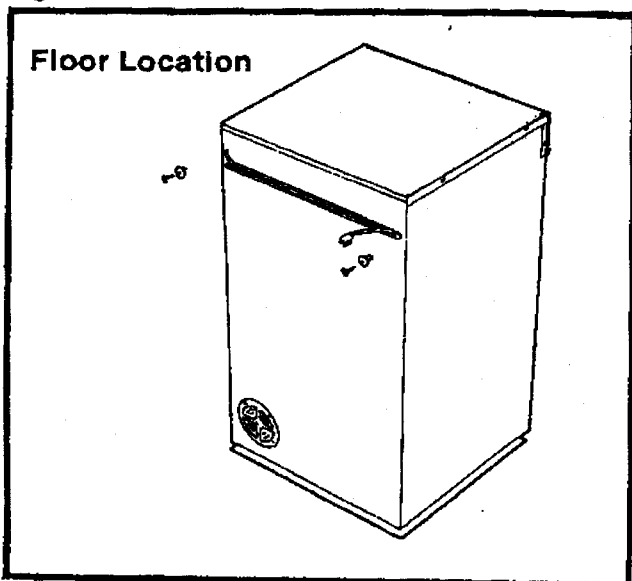

Fig. 5
10. Close the door and ensure that the TIMER CONTROL is in the "OFF" position. Switch power-point "OFF" and remove plug. On floor positioned dryers, store the cord by winding it around the two plastic spacers at the rear of the machine (Fig. 5).
Floor Location (Fig. 5)
For Dryers which are to be operated on the floor, the two plastic spacers which are supplied with the Dryer should be fitted under the heads of the screws 20cm down on each side of the rear panel (see Fig. 5). These are provided to ensure that the Dryer is situated at the correct working distance from the wall.